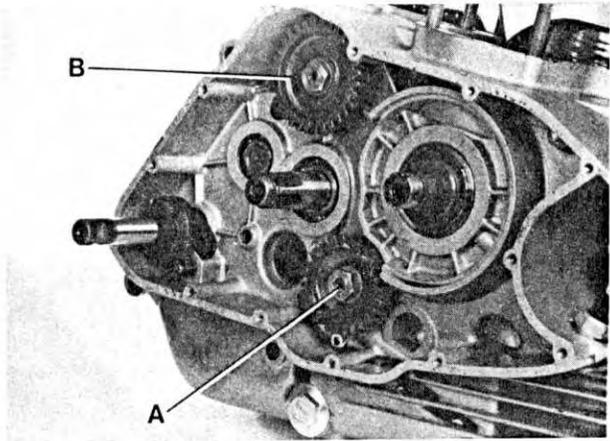

Fig. 105
After flattening the locking tab washers, unscrew the nuts securing the gears driving the oil pump (A) and the cam chain drive shaft (B) (Fig. 105).